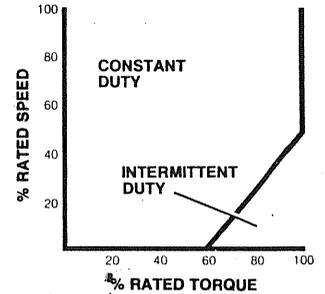

FIGURE 1. STANDARD AC MOTORS-ADJUSTABLE SPEED OPERATION
- b. The motor thermal capacity must be rated as a function of the minimum continuous operating speed in accordance with figure 1, due to the reduced ventilation of the internal motor fan. Where applications require 100% rated torque at speeds below 50% of the synchronous speed, a separately powered ventilation blower, a non-ventilated motor, or next higher motor rating should be used. When a separately powered ventilation blower is used, an internal thermostat should be built into the motor to prevent damage which may result from a failure in the ventilation system.